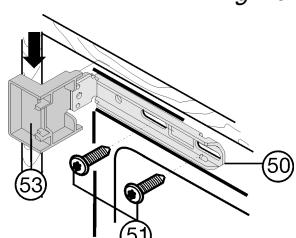

Fig. 11
- ▶ Attach the top cover Fig. 11 (53) and bottom cover Fig. 11 (50) to the mounting brackets.
- ▶ Fasten the mounting brackets Fig. 11 (50) at the top and bottom with screws Fig. 11 (51) so that the brackets can still be moved a little to the left and right.
- ▶ Strip the protective film off the cover trim Fig. 12 (22). Apply the cover trim Fig. 12 (22) to the projection of the cover Fig. 11 (53) on the handle side, flush with the front, and adhesively affix it to the side wall of the appliance.
- ▶ Slide in the appliance until the covers Fig. 11 (53) abut Fig. 11 against the side wall of the kitchen unit.
- ▶ Allow for the extra distance (depth of the door stop components): Allow hinges and covers Fig. 11 (53) to protrude by the extra distance.